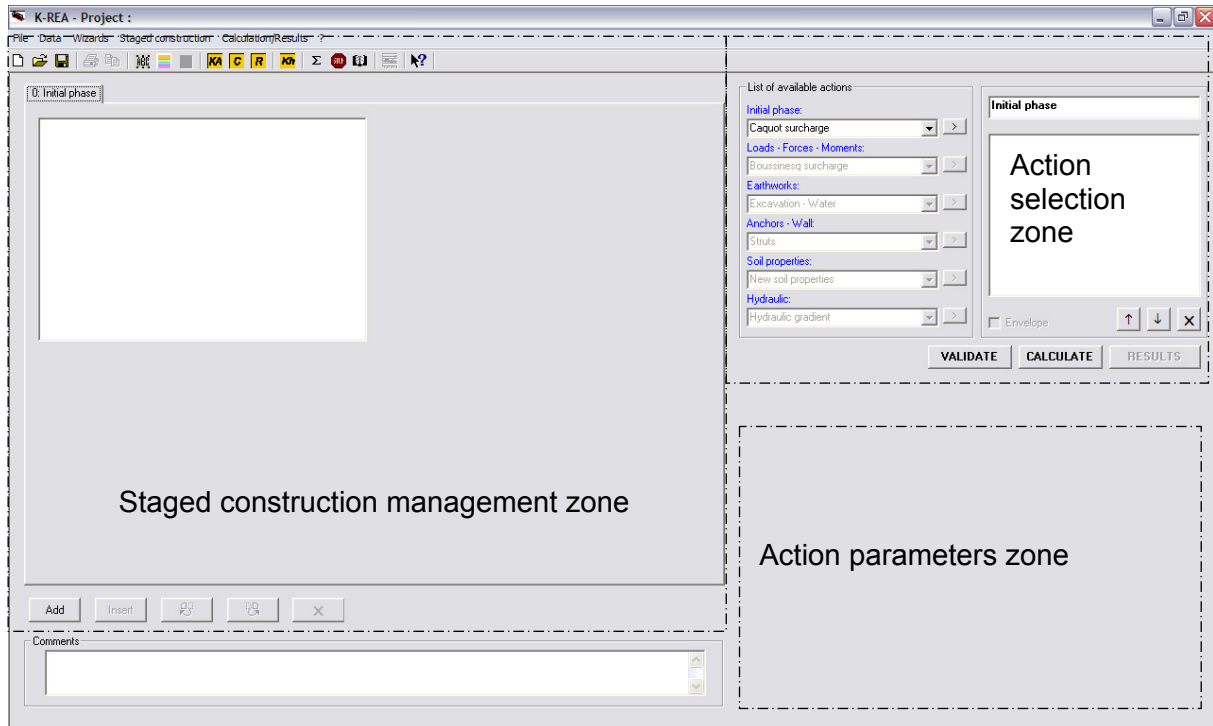

Figure B 1: Main window
- The action parameters zone (not shown on figure B 1).